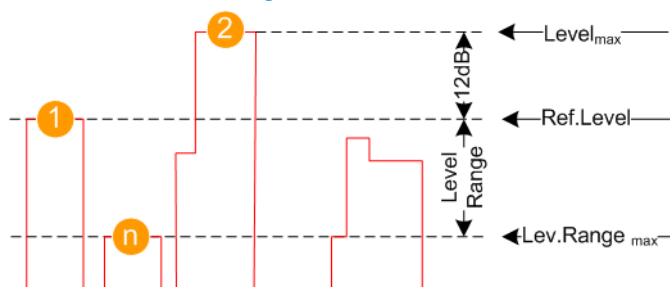

Figure 13-3: Background emitters signal leveling
- k, m, PRI = Number of pulses per sequence and PRIs, selected so that the level of the superimposed signal portions does not exceed 12 dB above the Ref. Level (see Figure 13-3)